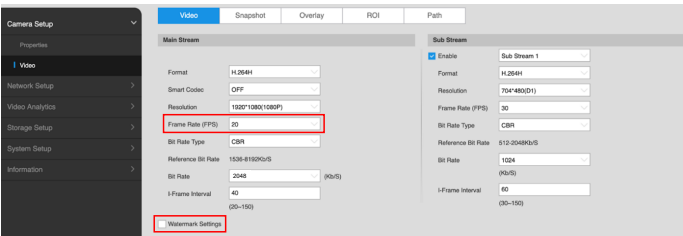

Fig. 3.3
5. Select the following parameters from the drop-down list of each field (see Fig. 3.3):